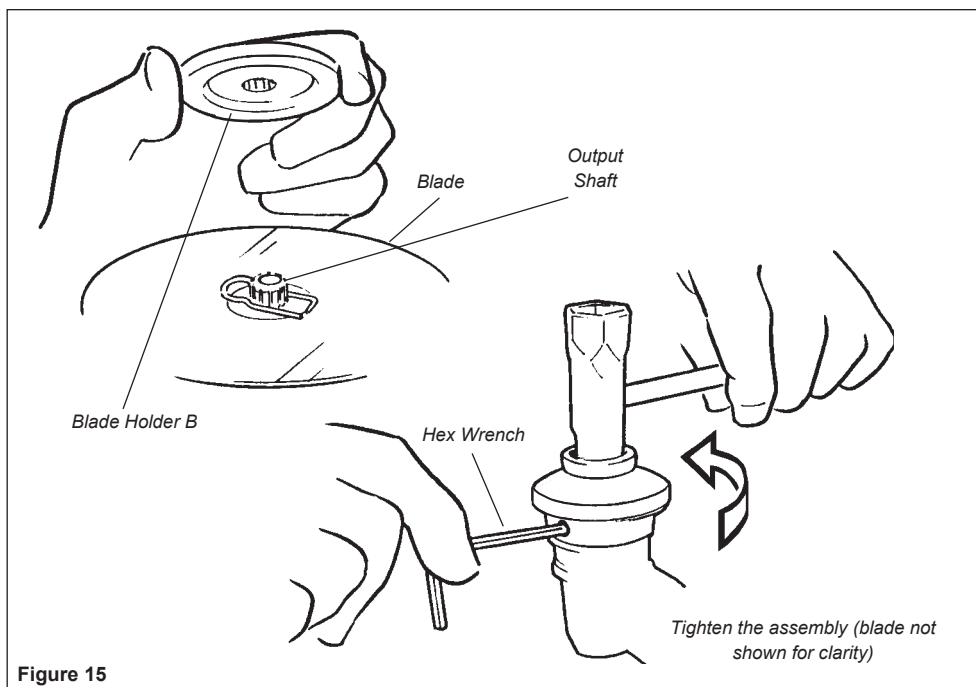

Figure 15
5. Install blade holder B on the output shaft. See Figure 15. The recess in the holder must completely cover the safety clip, and must fit tightly against the blade.